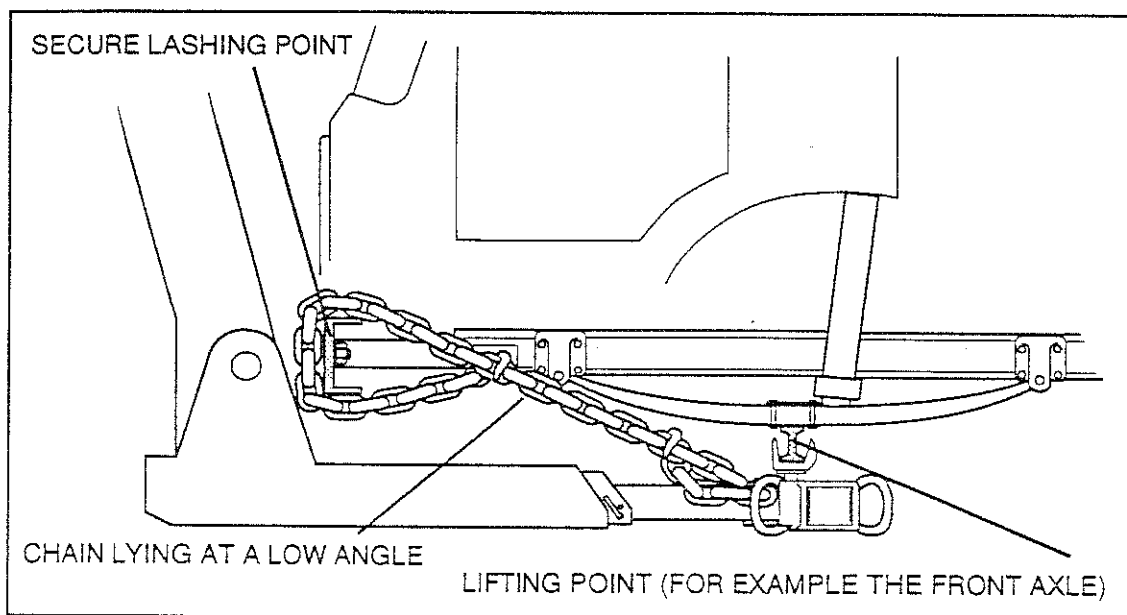

Figure 11 - Restraint against overrun
- 3.3.3 When braking occurs, there is a tendency for the casualty to ride forward. Chains to restrain this potential movement should be laid between the crosshead and some strong point on the vehicle (See Figure 11). The tension in the chains should be firm, but not bar-tight. This can be achieved by slight adjustment of the boom extension facility. If the lashing chains are at too steep an angle, they would suffer periodic slackening and